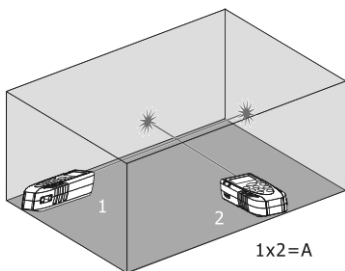

Fig. 5: Example of area measurement
3. Press the key to perform the first measurement (length) of the surface concerned (see Fig. 5). The corresponding value appears on the first partial display. The symbol "" appears on the display with side "2" flashing
4. Press the key again to perform the second measurement (width) of the surface concerned (see Fig. 5). The corresponding value appears on the second partial display, while the (up-to-date) total value of the area appears on the resulting display